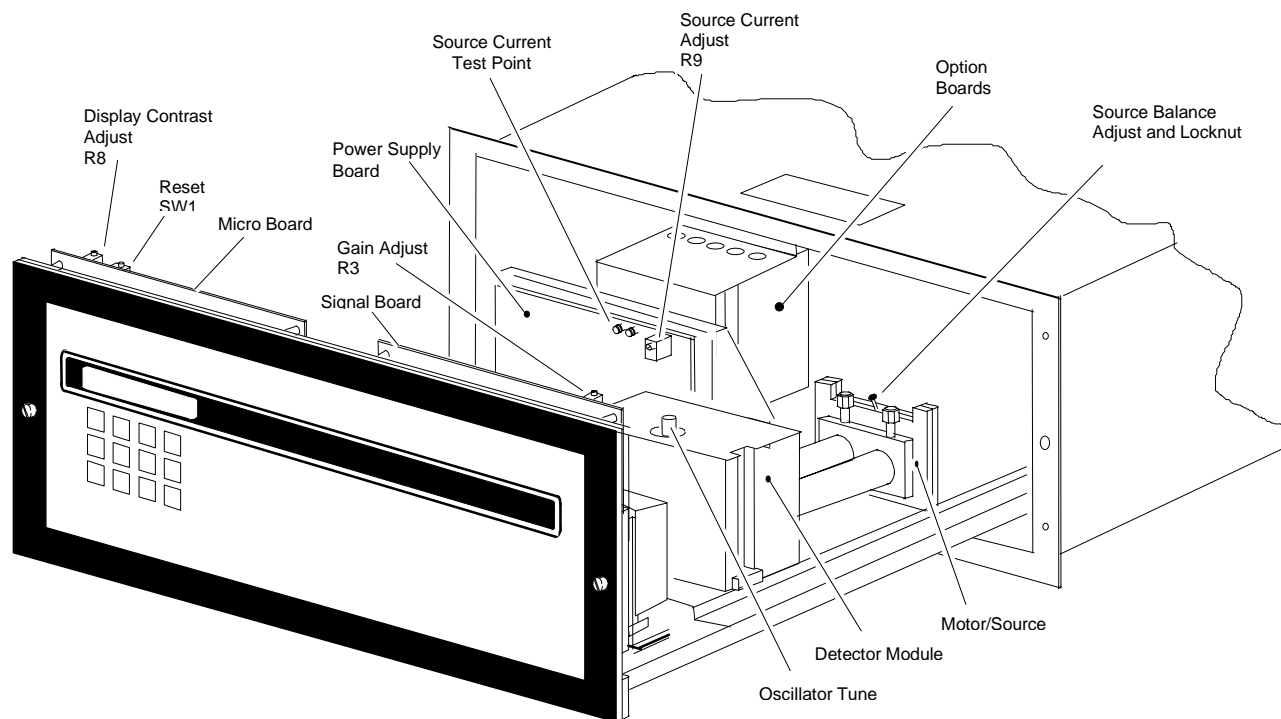

FIGURE 3-1 MODEL 880A ADJUSTMENTS
The display consists of a 16-character LED-backlight Liquid Crystal Display. The contrast on the display may be adjusted so that the display can be read from any vertical angle. This adjustment is made by loosening the two screws on the front of the case and sliding the front panel forward, then turning the potentiometer (R8) to adjust the contrast until the best view of the display is obtained. See Figure 3-1.
1. Press and release the RESET push-button switch on the Micro Board (see Figure 3-1).